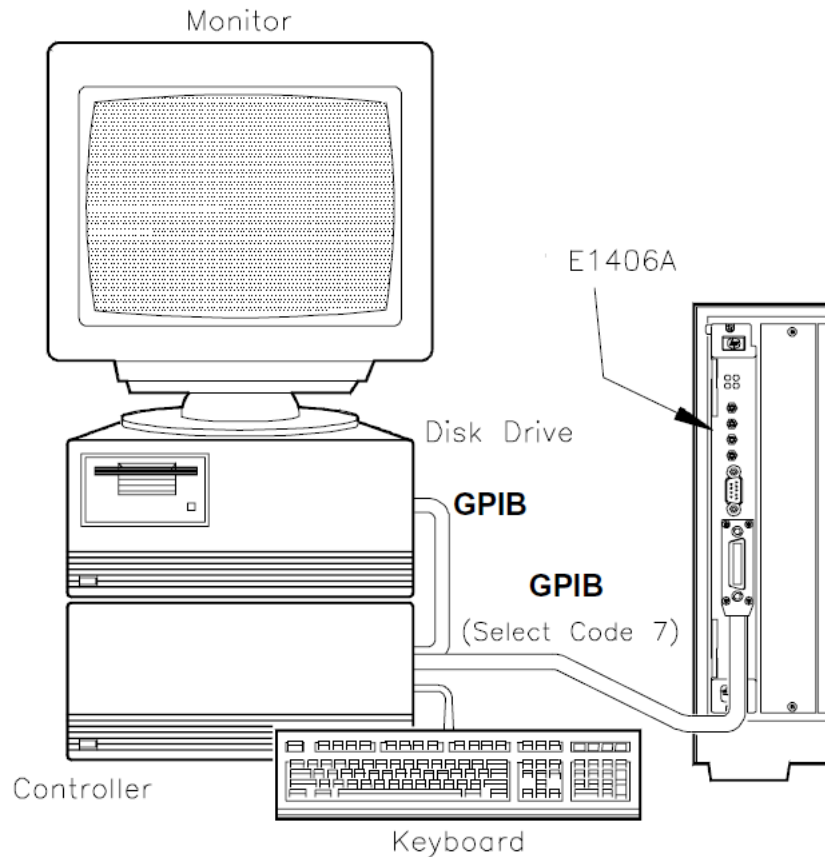

Figure 2-14 Test F-7: Serial Port Info Connections
- Connect computer to Command Module (see Figure 2-14)